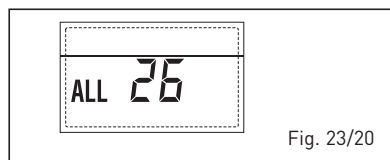

Fig. 23/20
**- ANOMALIA COERÊNCIA APLICAÇÕES SOLAR "ALL 27" (fig. 23/21)**